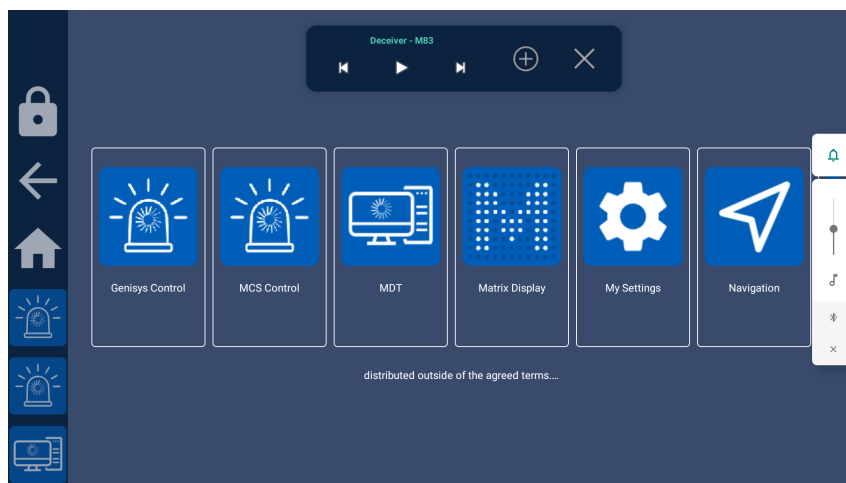

Figure 25: The media player in overlay mode
- Overlay mode: This is a smaller overlay at the top of the screen, see Figure 25.